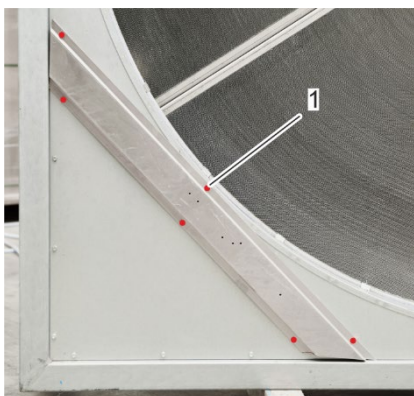

Fig. 24: Crossbeam drill holes
2. Screw the crossbeam (Fig. 23/2) to the housing of the rotary heat exchanger (Fig. 23/3) using self-tapping screws (Fig. 23/1). Use all six drill holes (Fig. 24/1).